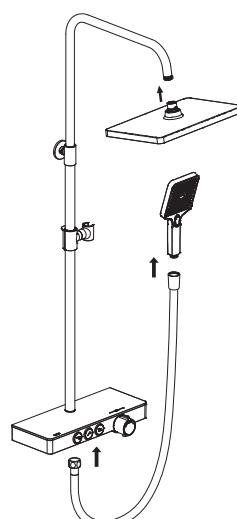

Figure 14
- Connect the overhead shower to the arm pipe (Figure 14).